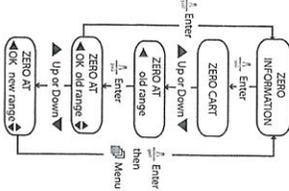

Figure 4-3
1. To change the cartridge zero range (Figure 4-3):
Use this process only for the primary, or most frequently used, cartridge. In this process, you set the zero reference of the elevation knob by aligning the "0" mark on the knob with the preferred index marking on either the right or left side of the BORS housing. Referring to Figure 4-3, follow the steps below to zero the cartridge.